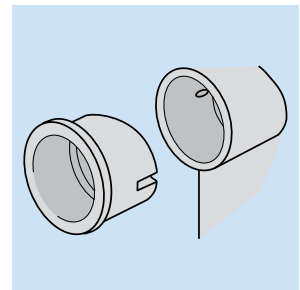

Fig. 33
- If 1½" connections are required cut off socket plug at cut guide and use as a reducer (Fig.33).